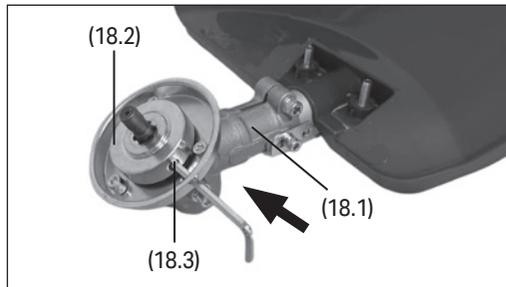

Fig.19
9.1 Fitting the Spool Assembly (Fig.19 – Fig.20)